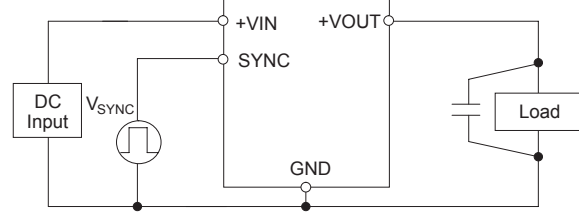
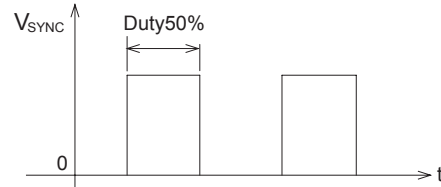

Fig 4.10 Example of frequency synchronization
Fig 4.11 Recommended wave form of SYNC
- Fig.4.10 is example of frequency synchronization. And recommended wave form of SYNC pin is shown in Fig.4.11